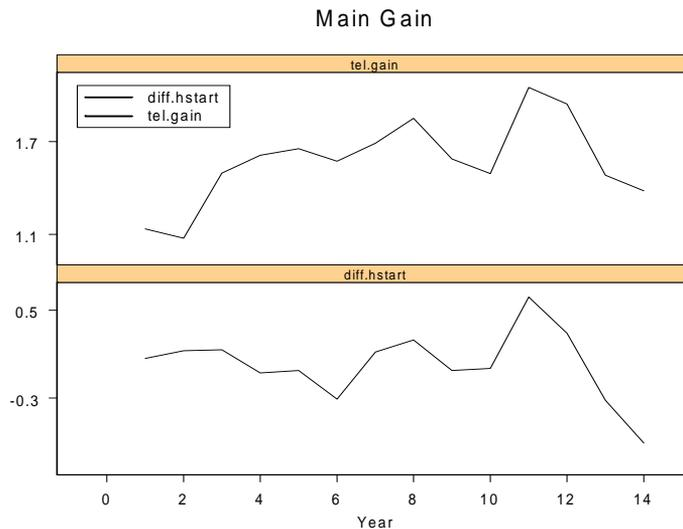

Figure 3.26: *Separate panels with varying Y axes plot.*
3. Click the **Separate Panels with Varying Y Axes** button  on the **Graph Tools** palette. See Figure 3.26.